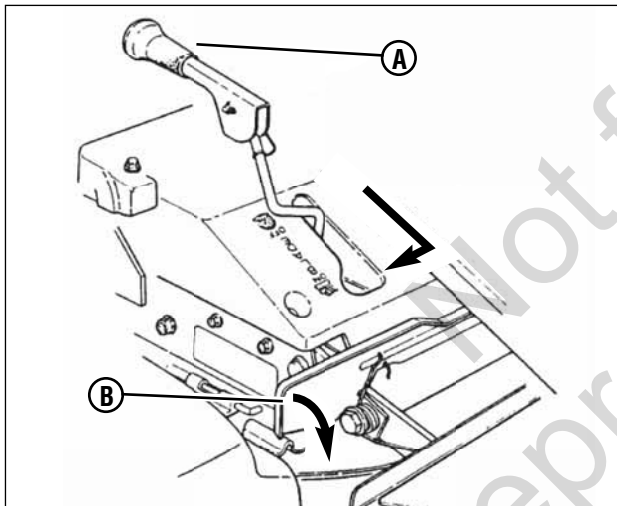

Figure 10: Engaging the mower blade
2. Move the blade lever (**A, Figure 10**) forward to the “ON” position, then depress the blade pedals (**B**) to hold the blade lever in the “ON” position.